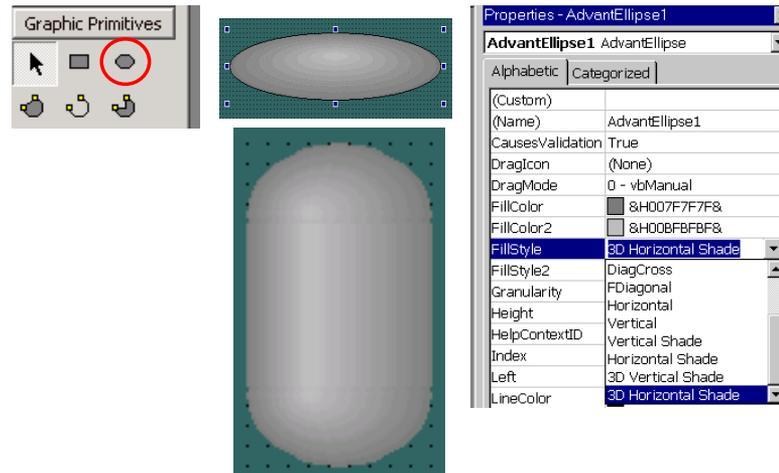

Figure 112. Tank Symbol Created
1. Click on the **Ellipse** icon (AdvantEllipse). See Figure 112.